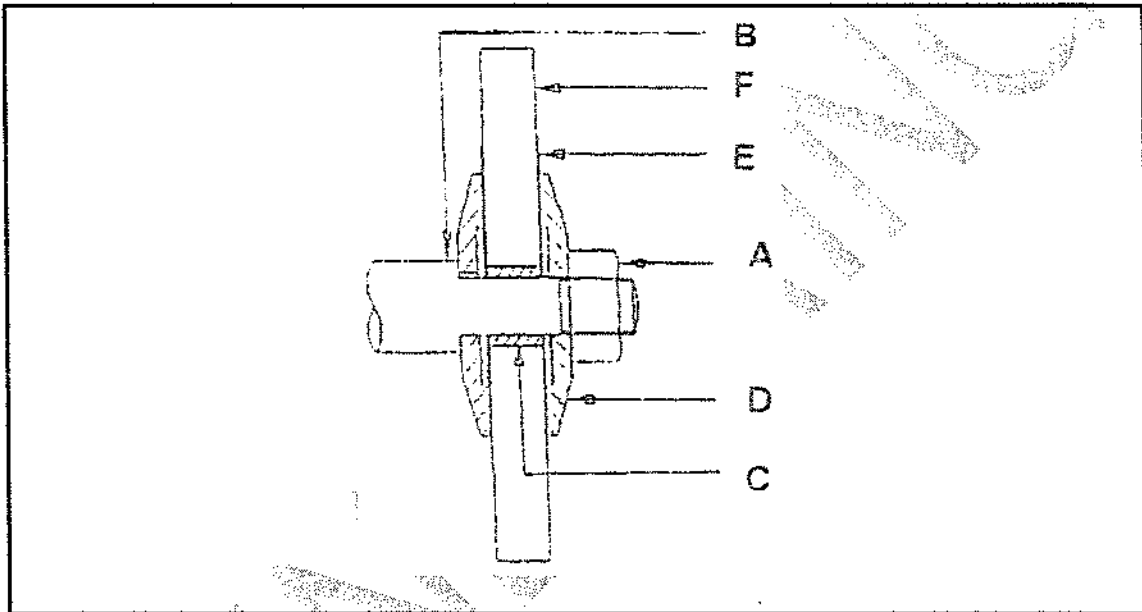

FIGURE 3
- 11.3 Write only the name of the components (FIGURE 3) next to the letters (A–F) in the ANSWER BOOK.